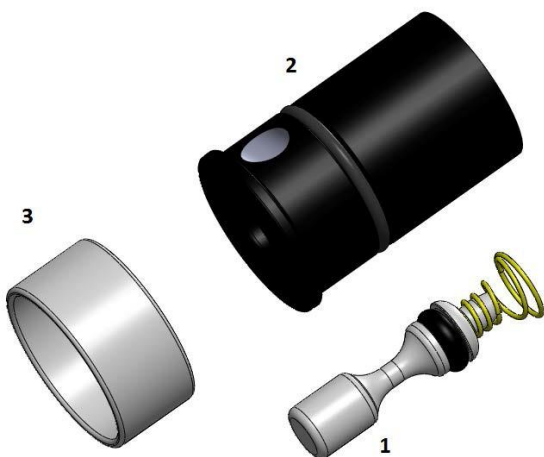

Figure 16
2. Grasp the glass and move the glass up to the valve house as show Figure 13 A. Then press the glass vertically against the valve house until the valve piston (Figure 16, part 1) moves upwards, there by opening the valve Figure 13B. Once the valve is open, it is not necessary to maintain the vertical pressure. When the glass is full, remove the glass, and the valve will close automatically.
The valve consists of 3 main parts see Figure 16, the Valve Piston (1) and the Valve House (2) and the Foam Ring (3).